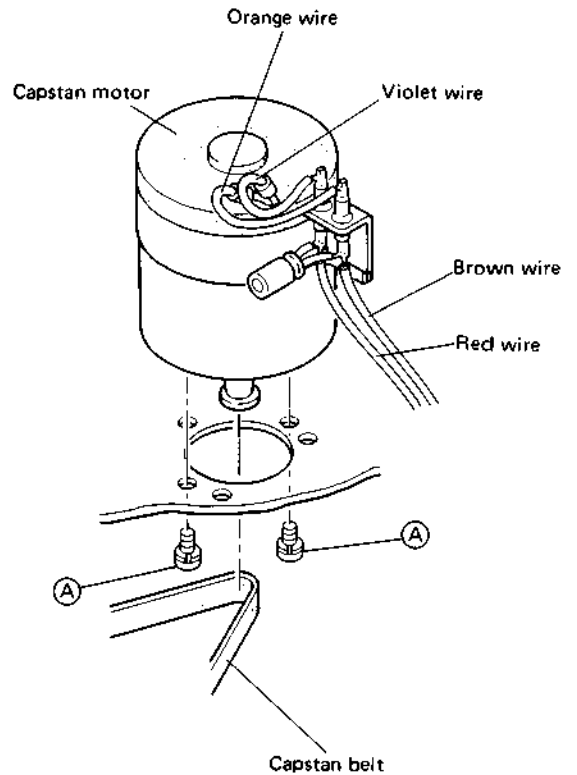

Fig. 4-13 Capstan motor replacement
1. Unsolder the wires from the feed through capacitor as shown in Fig. 4-13.
3. Take out two screws (A) and replace the capstan motor assembly.